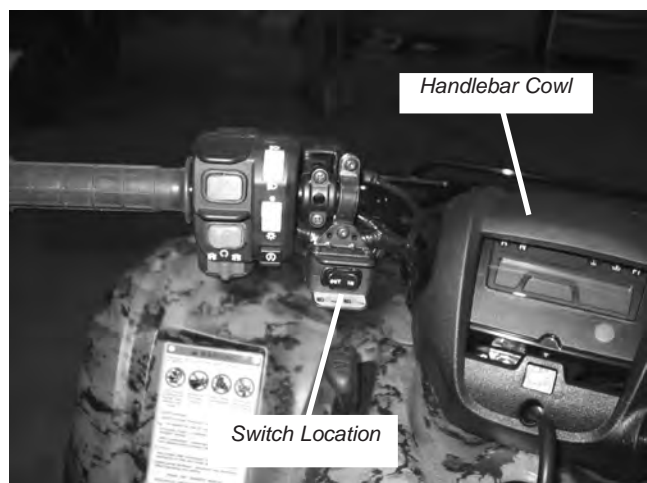

Figure 28 Handlebar Switch Location
- Mount the winch switch in the location shown in figure 28. The recommended location is on the bottom of the left side of the handlebars.